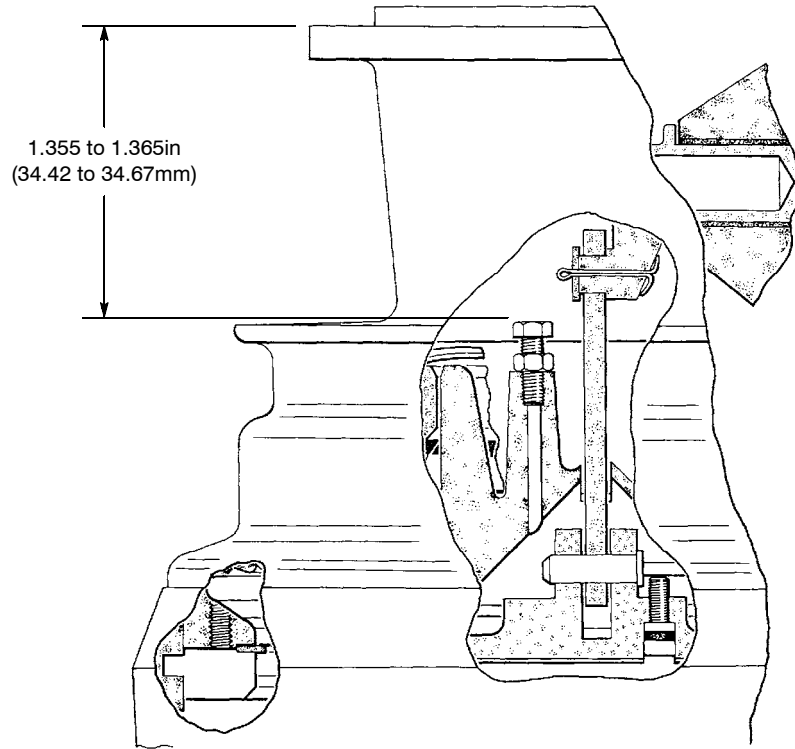

Fig 5.2 Actuator screw adjustment
## 2.3 Assembling (Fig 5.2)
- 2.3.16 If the coupler is fitted with a pressure control valve, adjust the actuator screw to give a measurement of 1.355 to 1.365 in. (34.42 to 34.67 mm) from the flange face to the top of the screw as shown in Fig 5.2 and tighten the lock nut. No adjustment is necessary for couplers fitted with Elbow/Swivel, but ensure lock nut is tight.